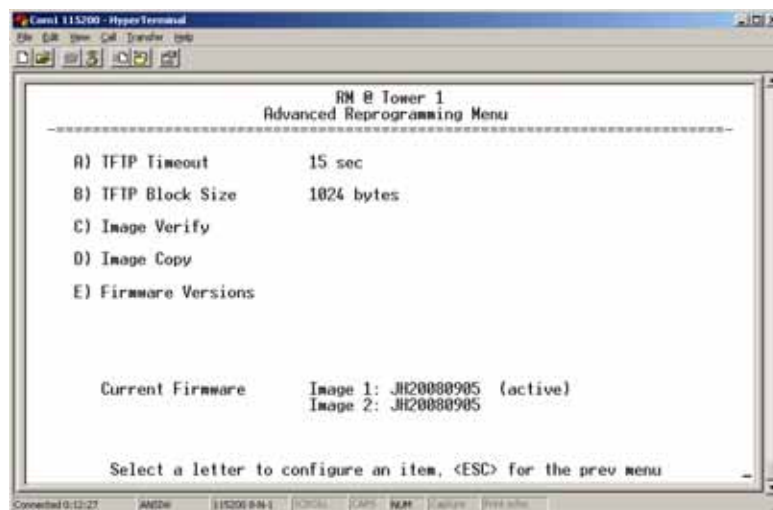

Figure 3-106. Advanced Reprogramming Menu
- **Advanced Reprogramming** Advanced configuration options for TFTP transfer of firmware files. See Figure 3-106 and related text descriptions.